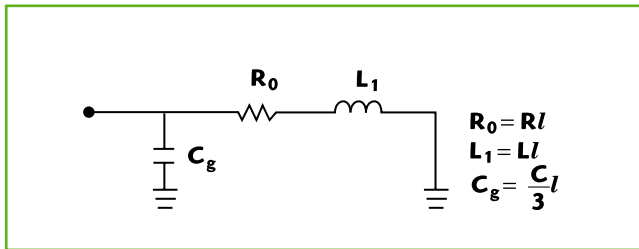

Figure 9. Low frequency lumped equivalent circuit for short-circuited lossy line
We recognize this as the admittance of the circuit shown in **Figure 9**. The inductance and capacitance both impose limits on how well matched we can make the termination over a given bandwidth.
In the late 1940's, H.W. Bode considered the problem of impedance matching two-element RC or RL loads.³ Bode's work was extended and generalized by Fano⁴ in 1950; Fano presented the limitations on impedance matching *any* load over an angular frequency range, ω_a to ω_b . However, for illustrative purposes, let us consider the case analyzed by Bode, i.e., where the inductive reactance is so much less than the value of the resistance at the highest frequency of interest that we can neglect the inductance altogether. For further simplicity, we take the lower frequency as zero (DC). Then, applying Bode's formula to the circuit of Fig. 9, the best possible results are limited as indicated by